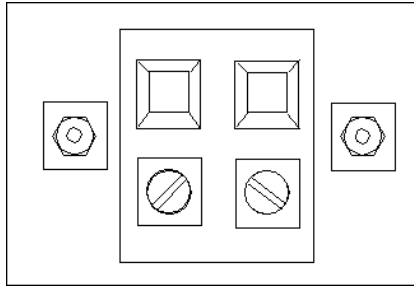

Figure 2-1 DC IN, BATT1, BATT2 Terminal Board Layout
9. Connect the 220 VAC power cable from the host base station's AC power breaker panel to the MHU. Refer to figure 2-1 and xx and table 2-1 for pin designations.
15. Connect the MHU CONTROL cable on the MHUI to the CONTROL (J3) port on the MHU. Refer to figures 2-1 and 2-2 and tables 2-2 and 2-5 for pin locations and pin designations.
17. Remove the safety cover from the BATT1 terminal board and connect the host battery back-up cable. There is no polarity on the terminal board, therefore it doesn't matter which pin you connect to. Refer to figure 2-1 and table 2-1. Replace the safety cover.
The system 220VAC power is routed to the MHU via the host circuit breaker panel then to the J5 connector on the Tx module (refer to figure 1-5 for the connector location and figure 2-1 and table 2-1 for the connector pin location and designation. The 220VAC is internally routed to the fans and the module's rectifier (power supply) circuit that reduces the 220VAC signal to the 27VDC needed to power the amplifier. The power supply circuit also generates the +12VDC and -8VDC used to power the MHU internal components.